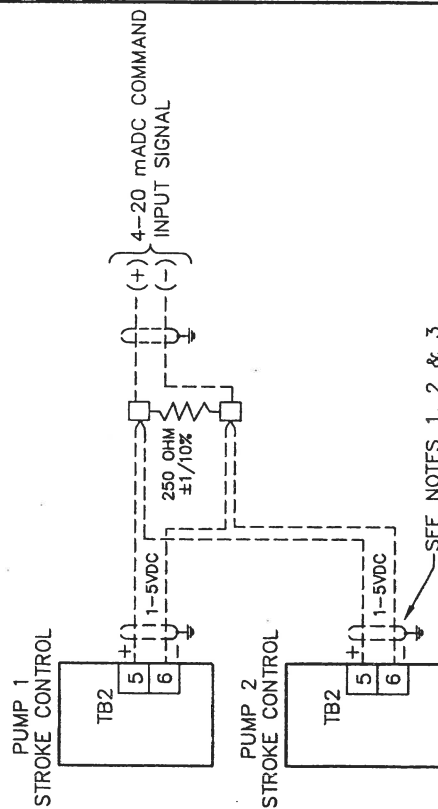

FIGURE 5B PARALLEL WIRING - CURRENT INPUT
- 3.8.2 PARALLEL WIRING of multiple Stroke Controller-Positioners using a precision resistor is illustrated in Figure 5B. The 250 ohm precision resistor converts the analog current signal to 1-5 VDC. The maximum quantity of Stroke Controller-Positioners that can be wired "in parallel" is a function of desired input signal accuracy. In addition to precision resistor tolerance, the parallel impedance (410K ohms) of each Stroke Controller-Positioner contributes a small error the "equivalent resistance" of the precision resistor.